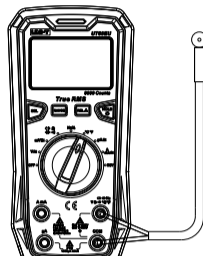

Figure 4
9. Temperature Measurement (Figure 4)